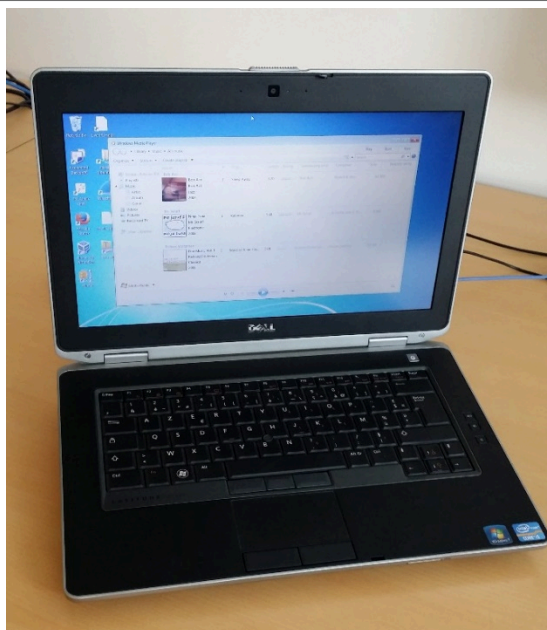

Figure 7. Laptop running Windows OS
5. Windows OS laptop (see Figure 7)